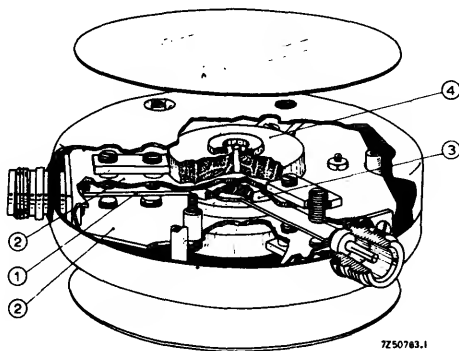

Fig. 9 Construction of a junction type coaxial circulator.
A coaxial circulator of the junction type is shown in Fig. 9. Three copper strips (1) intersect at  $120^\circ$  in the centre of the circulator. The strips are mounted between two earth plates (2) to form a matched high-frequency conductor. Two ferrite discs (3) and magnets (4) are mounted in the exact centre of the circulator.